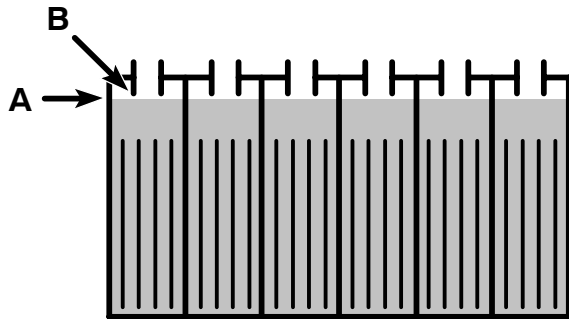

FIG. 32
7. Lead Acid Batteries: After charging, check the electrolyte level (A) again. The level should be approximately 1 cm from the bottom of the fill-port (B) (Figure 32). Add distilled water if needed. DO NOT OVERFILL.